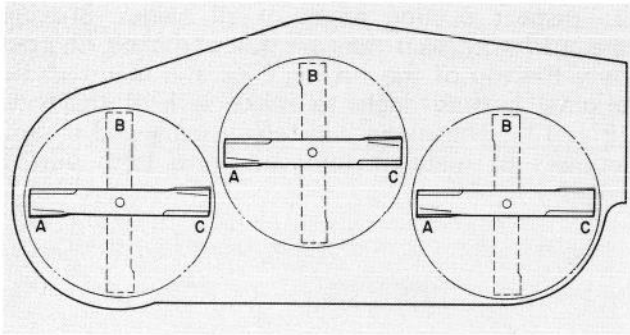
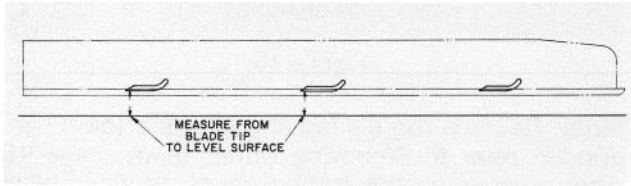

Figure 14
Figure 15
4. Position all three blades in the "A" position (Fig. 15) and measure from level surface to the bottom of the tip end of each blade (Fig. 15).
5. Note measurement attained at "A", rotate blades to "B" position (Fig. 14), measure distance of all blades to level surface and note dimensions (Fig. 15).
6. Rotate blades to "C" position, measure and note distance measured (Fig. 14, 15).
- B. Transfer one thrust washer from top side of castor shaft to lower side, install castor assembly and compare blade height of all blades; refer to items 3 through 7. Continue adding thrust washers if height still does not meet requirements.
- C. If cutting unit is operated at 2 to 4 in. (51 to 102 mm) height-of-cut, lower the high side of cutting unit. Remove lynch pin of castor at high end of unit and remove castor assembly (Fig. 14).
- D. Transfer one thrust washer from lower side of castor shaft to top side, install assembly and compare blade height of all blades; refer to items 3 through 7. Repeat procedure if height still does not meet requirements.